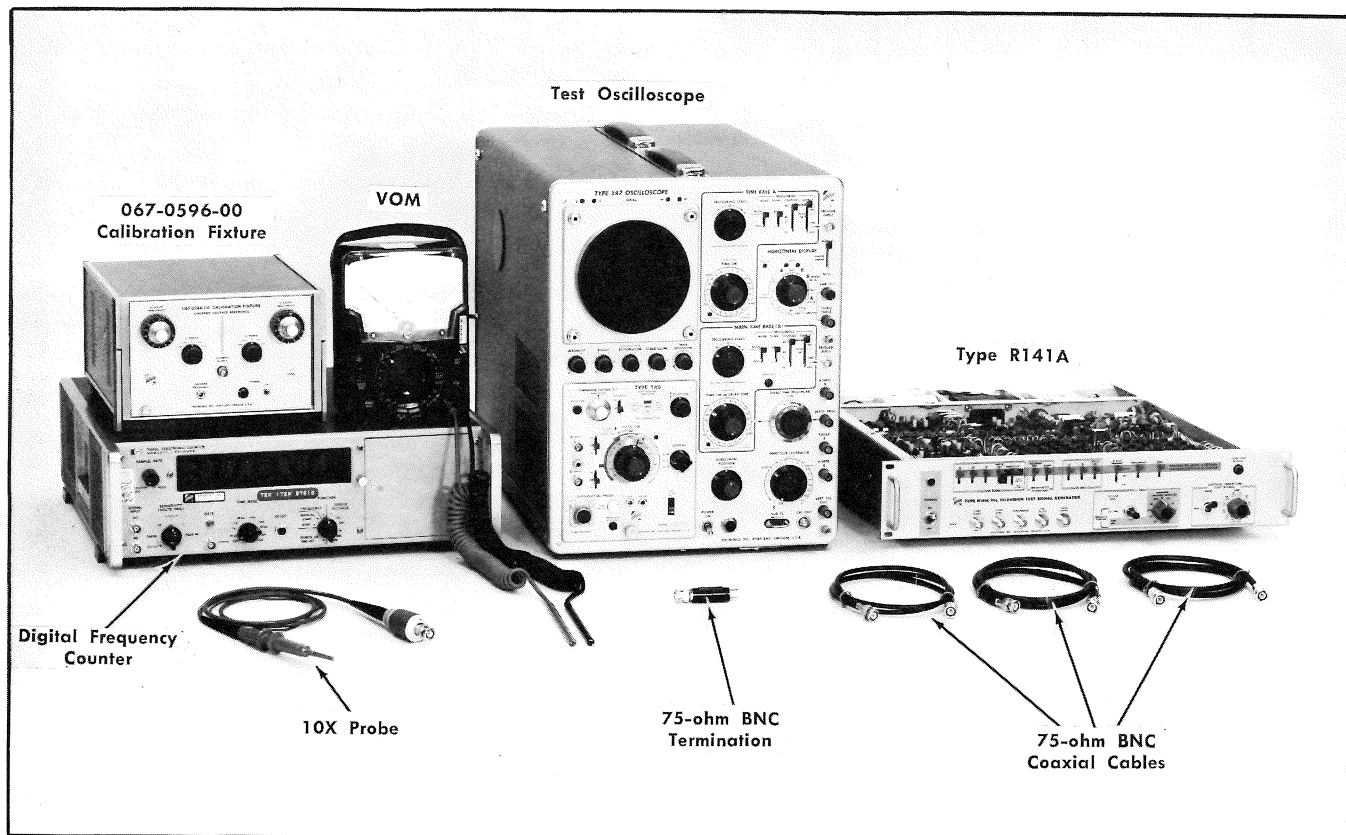

Fig. 5-3. Equipment required for steps 3 through 5.
- a. Test equipment is shown in Fig. 5-3.
g. Disconnect all test equipment and reset the Test Oscilloscope and Type 1A5 switches and controls as listed following Fig. 5-3.
4. Check/Adjust Subcarrier Amplitude **①**
a. Test equipment is shown in Fig. 5-3.